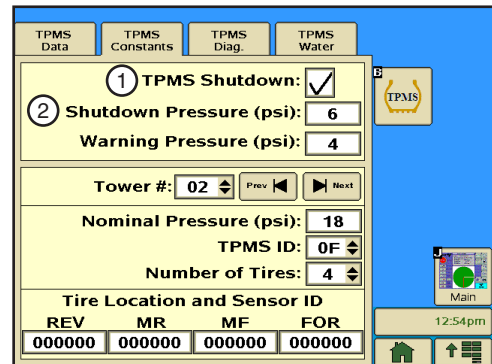

Figure 62-3 1. TPMS Shutdown Checkbox
1. Push **Options**, **TPMS**, **TPMS Constants** for the Tire Pressure Constants screen. Refer to Figure 62-3.